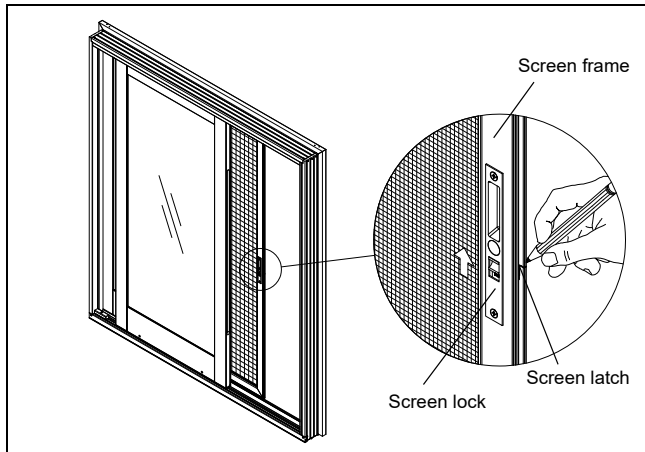

Figure 5
1. To install the screen lock on side, center, or astragal jamb, raise (unlock) the screen latch. Open the screen and lightly mark the location of bottom of latch with a pencil on the exterior face of the screen. Close the screen against the jamb or astragal. Transfer latch location from the screen frame to the jamb. See figure 5.